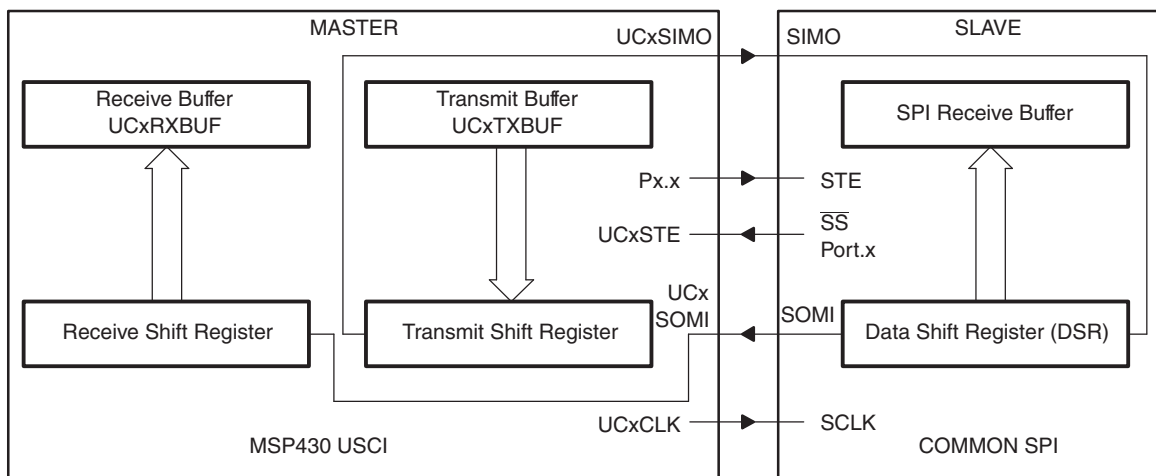

Figure 19-2. eUSCI Master and External Slave
Figure 19-2 shows the eUSCI as a master in both 3-pin and 4-pin configurations. The eUSCI initiates data transfer when data is moved to the transmit data buffer UCxTXBUF. The UCxTXBUF data is moved to the transmit (TX) shift register when the TX shift register is empty, initiating data transfer on UCxSIMO starting with either the MSB or LSB, depending on the UCMSB setting. Data on UCxSOMI is shifted into the receive shift register on the opposite clock edge. When the character is received, the receive data is moved from the receive (RX) shift register to the received data buffer UCxRXBUF and the receive interrupt flag UCRXIFG is set, indicating the RX/TX operation is complete.